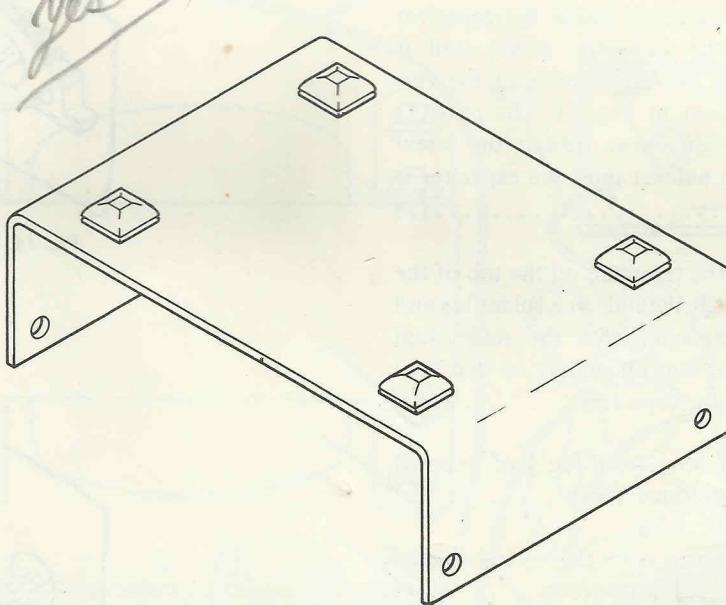

Fig. 12. Mounting the feet on one of the cabinet halves.
(1) Before installing the power supply in the cabinet, locate the four plastic mounting feet found in Bag "3B-320." Remove the backing from the feet and mount them on one of the cabinet halves as shown in Fig. 12 ()